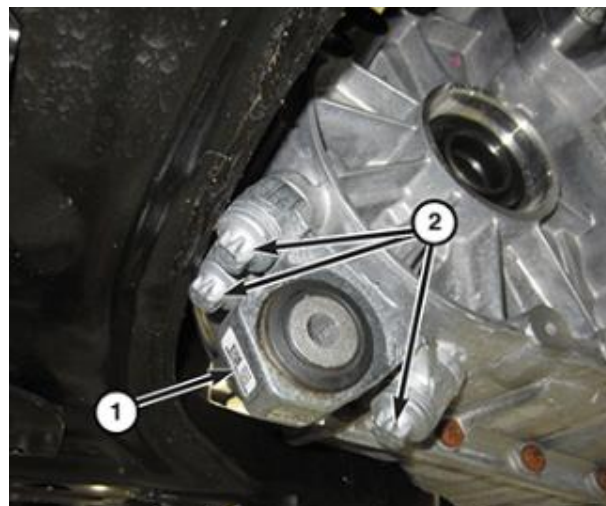

Figure 21 – Rear Engine Mount Bracket
13. Remove the three bolts (2) and remove the rear engine mount bracket (1) (Figure 21).
14. Install the rear engine mount bracket and tighten the bolts to 163 N·m (120 ft. lbs.) (Figure 21).